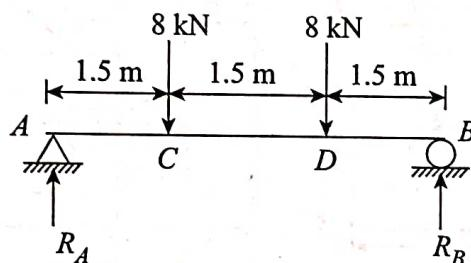

Figure 9.22
**EXAMPLE 9.14:** A 150 mm × 150 mm pine wood beam was supported at its ends on a 4.5 m span and loaded as shown in Fig. 9.22. The beam failed when a 8 kN load was placed at 1.5 m from each end. Find the modulus of rupture.